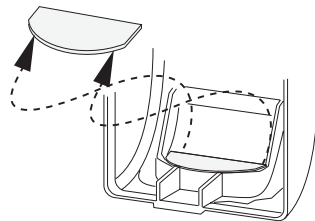

Figure 2. Cardboard Undercrawl Mask Location
- The cardboard undercrawl mask installed at the factory (see Figure 2) blocks coverage within 5 feet of the sensor.